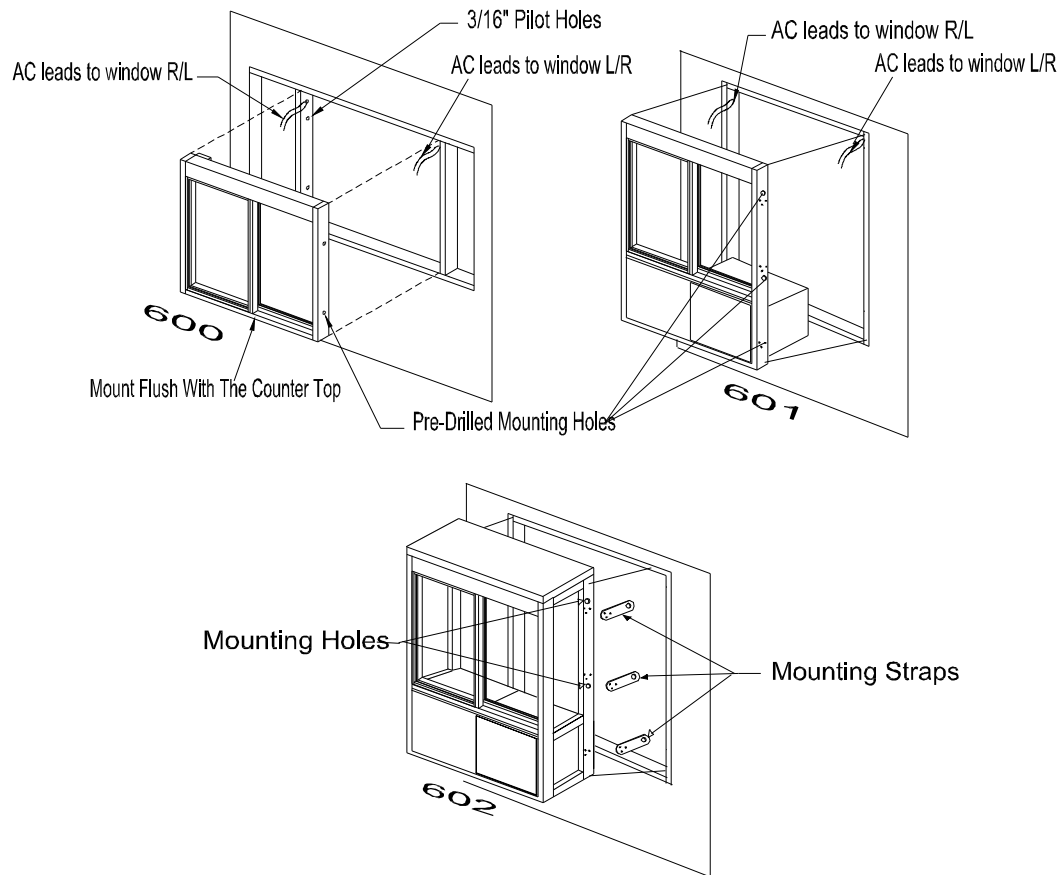

Figure 5
7. Using the window mounting holes as a template, drill a quantity of 4 – 3/16" (5mm) diameter holes for mounting. (See Figure 5)